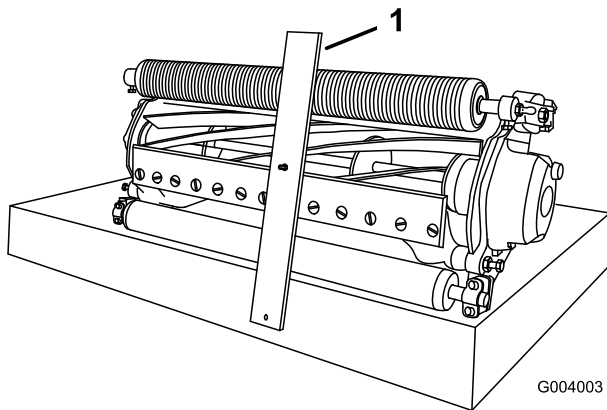

Figure 57
3. Hook screw head on cutting edge of bedknife and rest rear end of bar on rear roller (Figure 57).